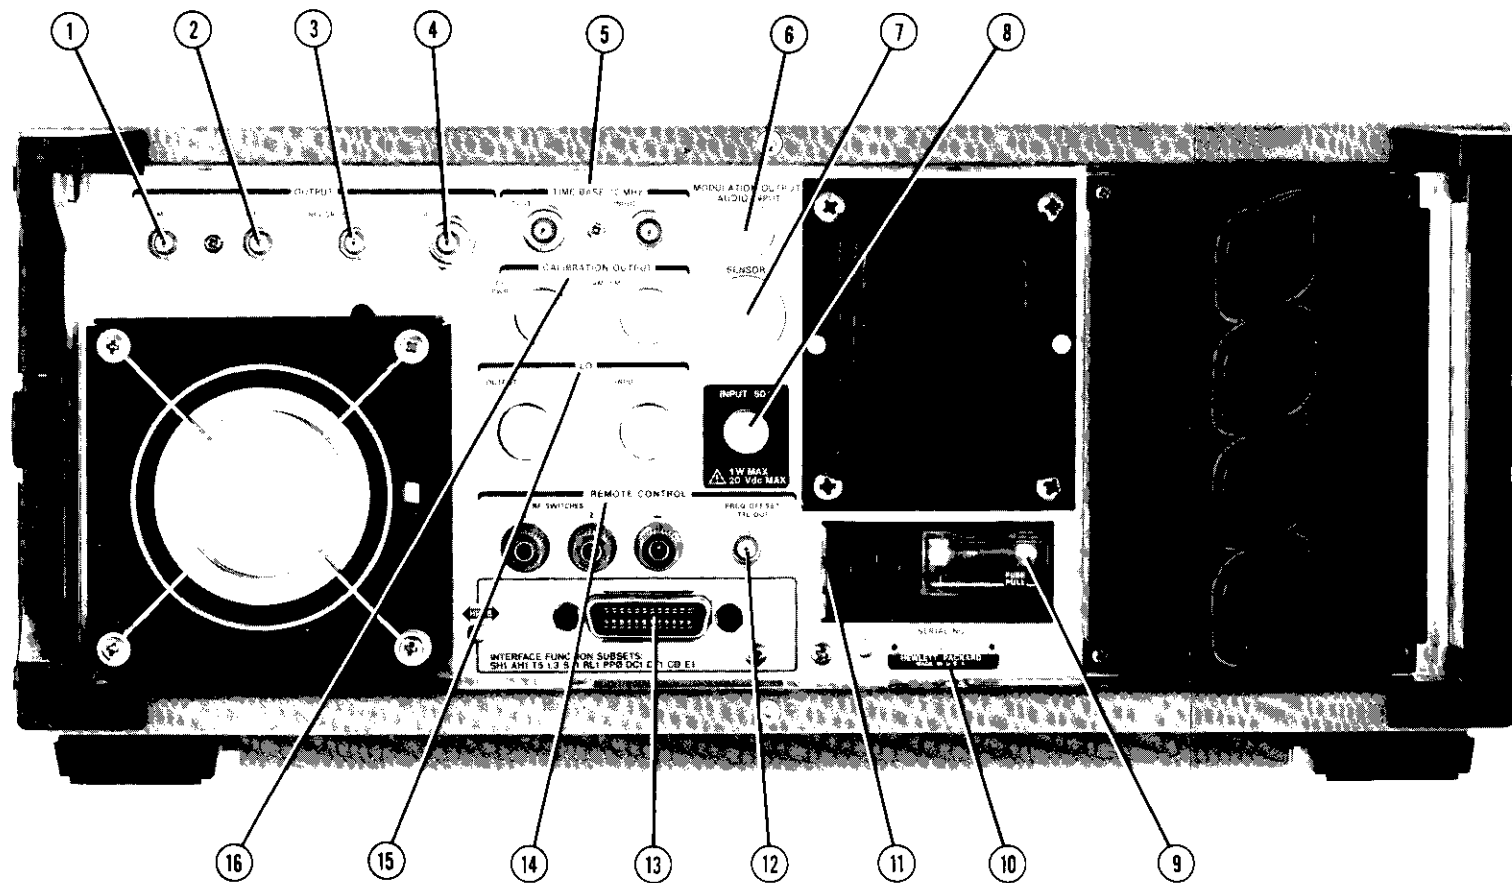

Figure 3-2. Rear-Panel Features
Rear-panel features are shown and described in Figure 3-2. The figure provides a quick reference for rear-panel signal levels and frequencies and also includes the impedances at the rear-panel connections.
- ⑯ **CALIBRATION OUTPUT RF PWR and AM/FM** produces a rear-panel output for RF Power and AM and FM calibrators. This output is supplied on Option 001 instruments instead of the standard front-panel connection. Refer to both CALIBRATION RF POWER OUTPUT and CALIBRATION AM/FM OUTPUT in Figure 3-2.